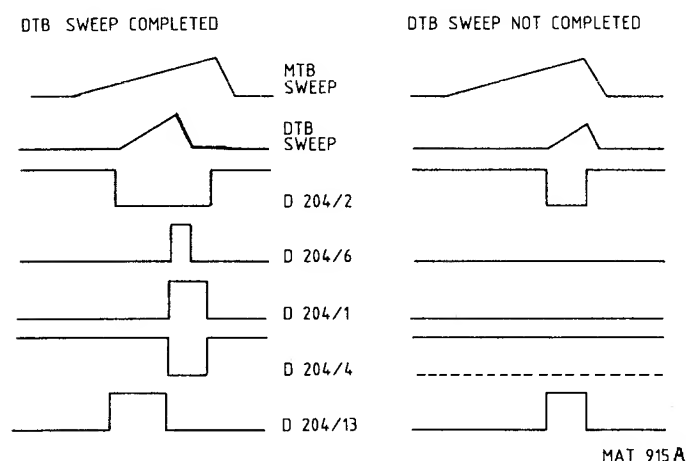

Fig. 2.8 Important voltage-waveforms in the DTB control logic
b) START and STOP of DTB (see timing diagram Fig. 2.8)
The situation described above is valid if the DTB sweep is completed before the MTB sweep (see Fig. 2.8. indicating the voltage waveforms for the DTB SWEEP COMPLETED mode, and also for the DTB SWEEP NOT COMPLETED mode).